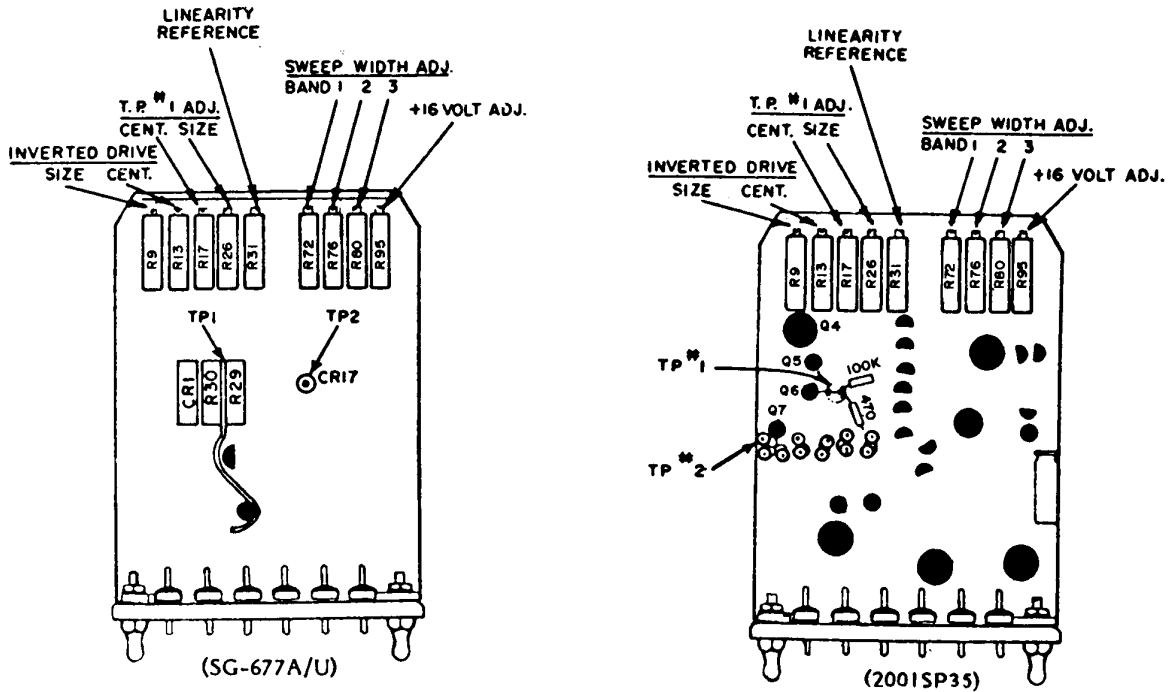

Figure 6. M2H module.
- (2) Adjust R95 (fig. 6) until digital voltmeter indicates the same voltage, but of opposite polarity as recorded in (8) above (R).
(4) Adjust M2HR9 and M2HR13 (fig. 6) until the positive and negative peaks agree precisely with recordings in (2) and (3) above (R).
(5) Repeat (1) through (6) above to check for oscilloscope drift while adjustments were being made.
- (2) Connect oscilloscope No. 2 to M2H TP1 (fig. 6) and chassis ground.
- (3) If indication on oscilloscope is not 0 V, perform **b(1)** below.
- (4) Increase **SWEEP WIDTH** to max.
- (5) If indication on oscilloscope is not 28 V p-p, perform **b(2)** below.
- (6) Connect **HORIZ** output to oscilloscope **CH 2** (set oscilloscope for xy).
- (7) Set **SWEEP TIME SEC** to **.1-.01**.
- (1) Adjust R17 (fig. 6) for 0 V indication on oscilloscope (R).
- (2) Adjust R26 (fig. 6) for 28 V p-p indication on oscilloscope (R).
(3) Adjust R31 (fig. 6) until oscilloscope sweep "knees" approximately 2/3 cm to the left of the 10 cm mark (R).
(4) Repeat paragraphs **9** through **13** above.